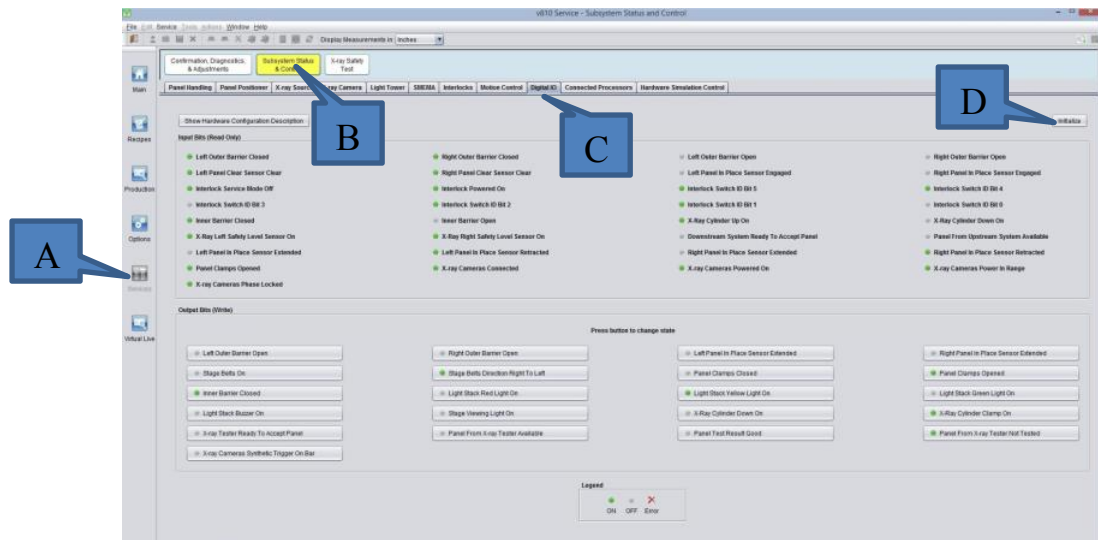

Figure 3
3. Quit and restart V810 software. Go to Digital I/O tab and initialize as Figure 3.